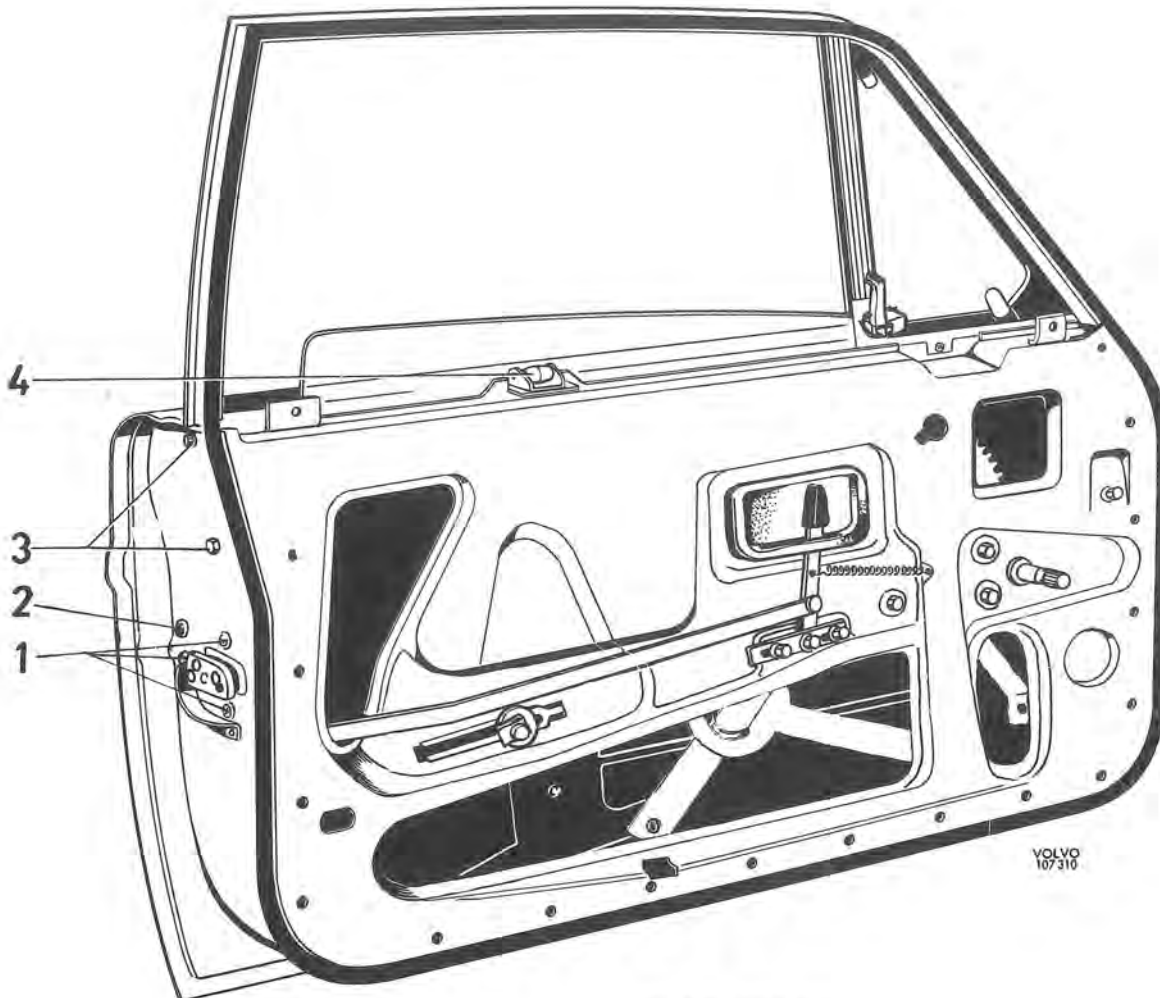

Fig. 8-10. Front door
Remove the door stop in accordance with the instructions under "Removing and fittings door stops". Unscrew the bolts between the hinges and door. The bolts are accessible when the door is opened. The door can then be taken off (Fig. 8-10).
2. Remove the lock cylinder by unscrewing the attaching screw which is fitted in the rear edge of the door (2, Fig. 8-10).
6. Unscrew the two screws for the rear winder rail on the edge of the door (3, Fig. 8-10).
7. Unscrew the three screws for the door lock. These screws are placed on the rear edge of the door (1, Fig. 8-10).
2. Remove the guide roller for the window. The guide roller is placed at the upper edge of the door as shown in Fig. 8-10.